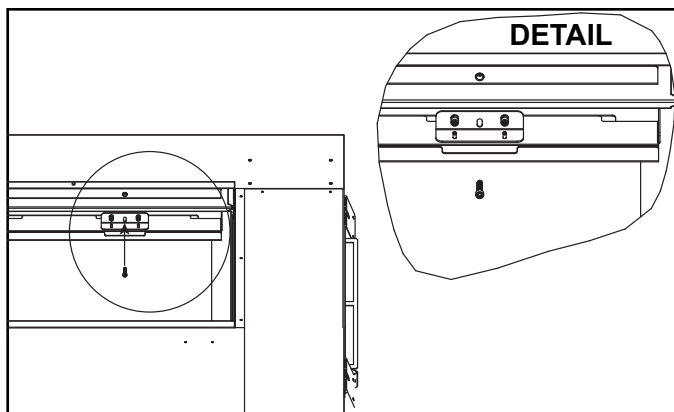

Figure 11.18 Glass Retainer Bar Assembly Installation
- To fully seat the glass retainer bar assembly, carefully thread the screws, which were removed from the rivnuts in Step 2, into the center hole of the bracket assembly on each side. See Figure 11.18. Use caution to not cross thread the screw. Once both screws are properly aligned and partially installed, the screws may be installed completely.